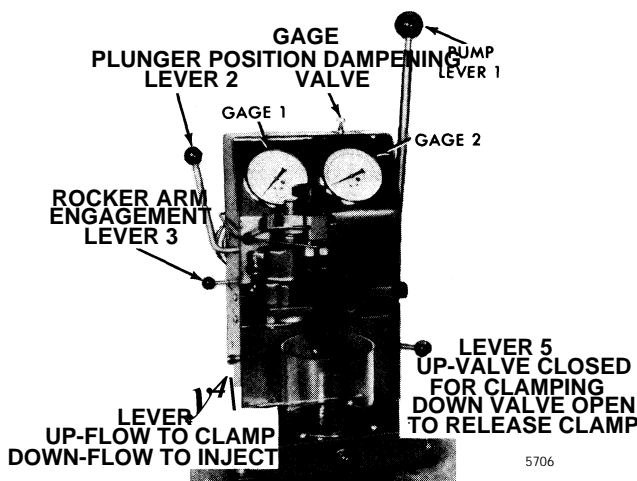

Fig. 29 - Injector in Position for Testing with Tester J 23010-A
1. Clamp the injector properly and purge the air from the system (Fig. 29).
1. Clamp the injector properly in Tester J 23010-A and purge the air from the system (Fig. 29).